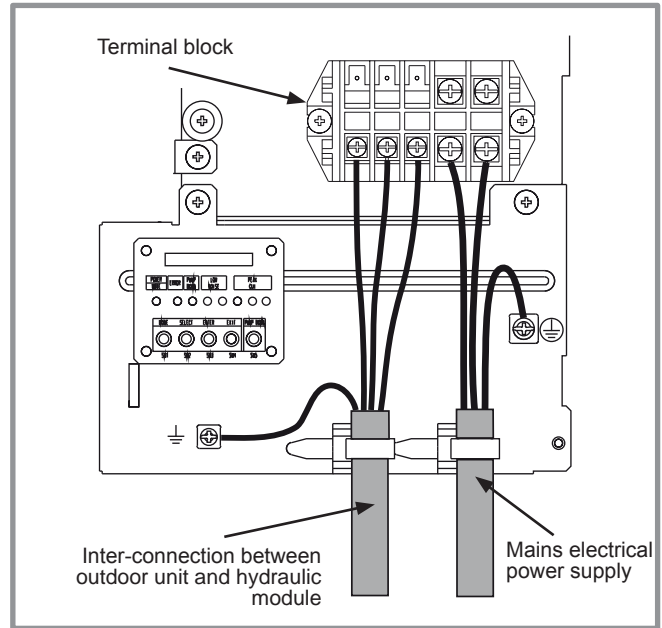
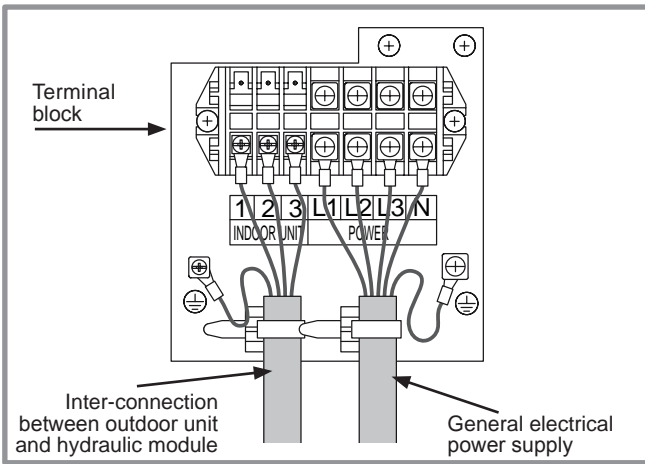
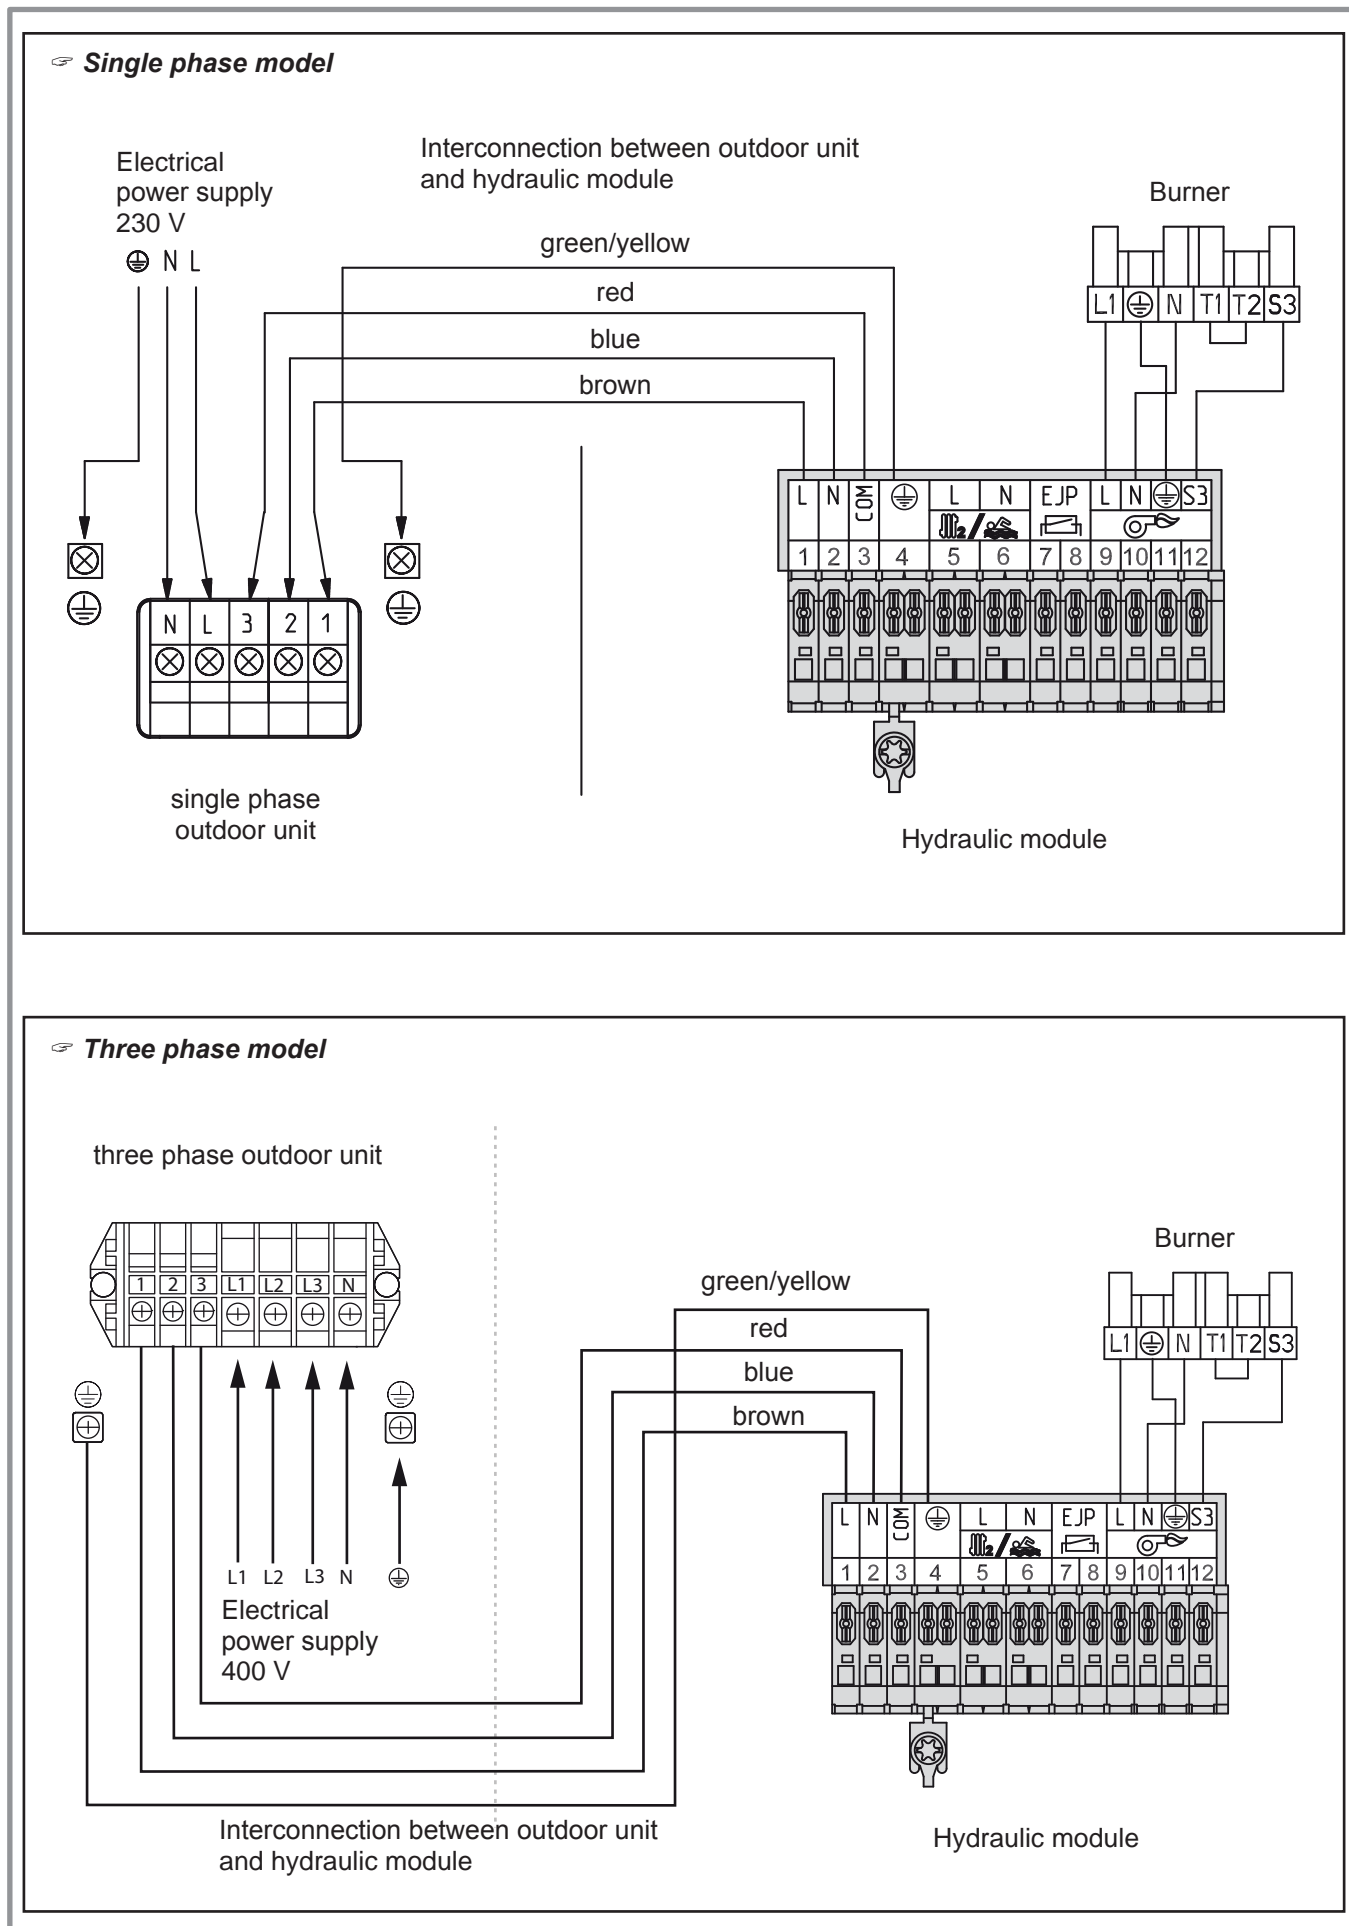
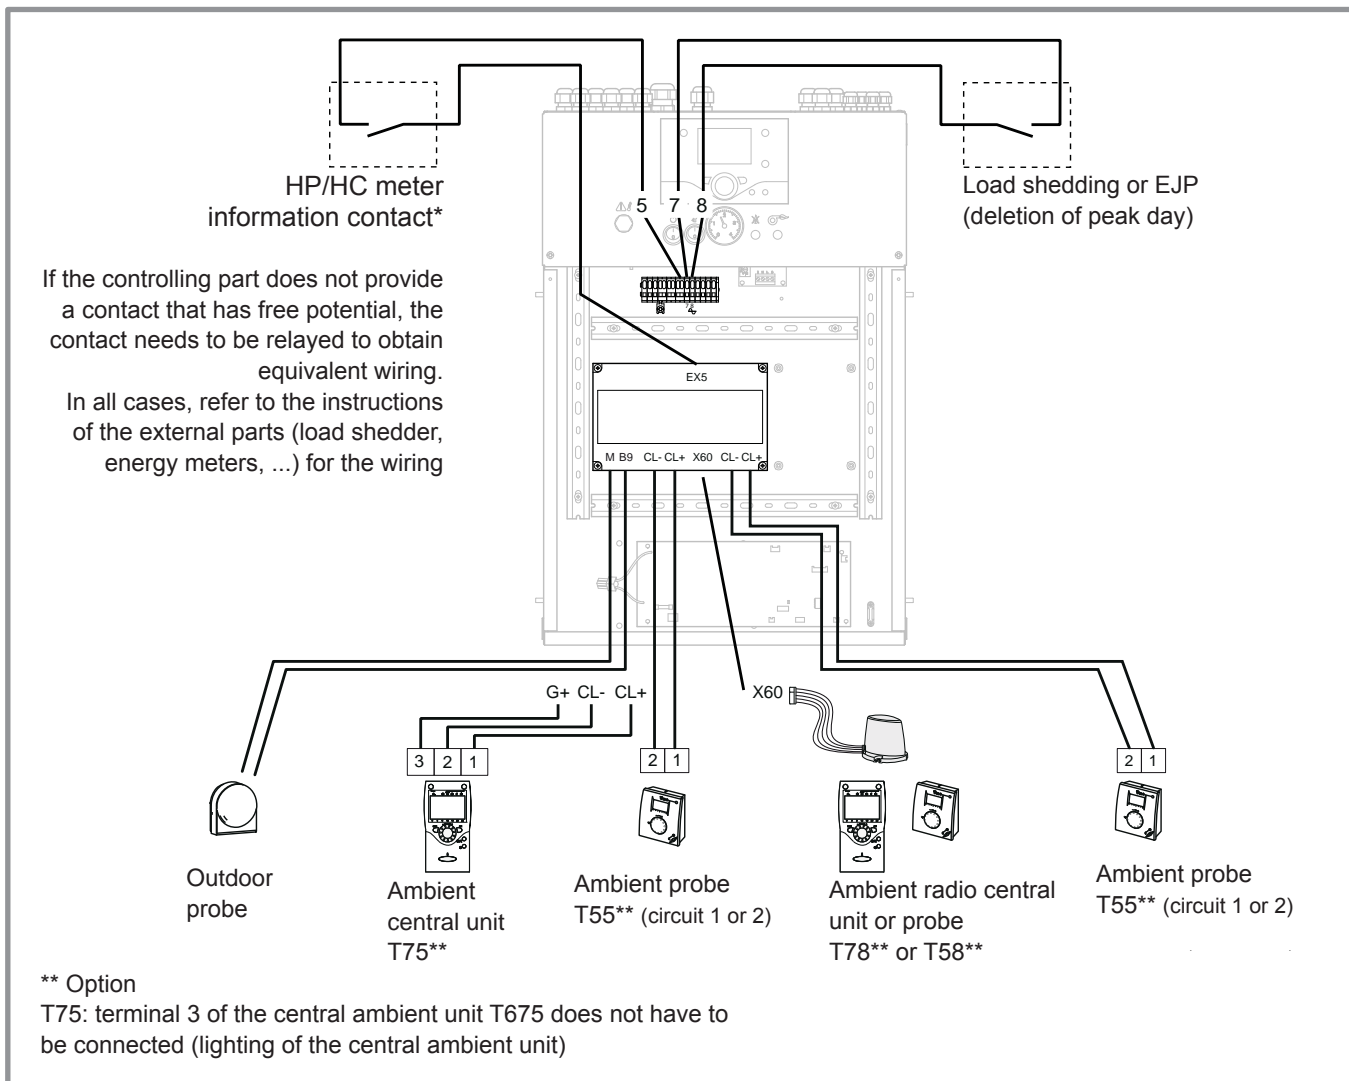

figure 34 - Terminal block connections of the single phase outdoor unit
figure 36 - Terminal block connections of the three phase outdoor unit
figure 40 - connection to terminal blocks and power relays
figure 41 - connections to the PAC regulator (accessories and options)
- Make the connections as per diagram (figure 34 and figure 40, page 31).
- Make the connections as per the diagram(s) (figure 36 and figure 40, page 31).
Make the connections as per diagram (figure 40 and figure 41).
- Connect the outdoor probe to terminals **M** and **B9** on the regulation board of the PAC (figure 41).
- Connect each of the sensors to one of the terminals **CL+** and **CL-** on the PAC regulation board (figure 41) using the connector supplied.
- Connect the probe to one of the terminals **CL+** and **CL-** of the PAC regulation board (figure 41).